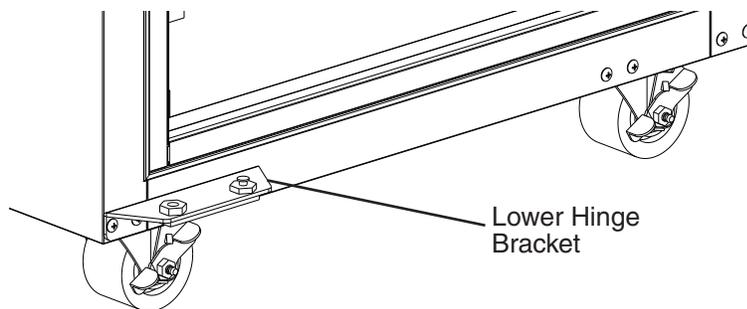

Fig. 60
- 12) Rotate the upper hinge bracket 180 degrees, then place and secure it in the new lower hinge bracket position. See Fig. 60. **NOTICE! Be sure to reuse the bracket screws for mounting the bracket as the bracket screws are 5x12 and filler screws are 5x10.**